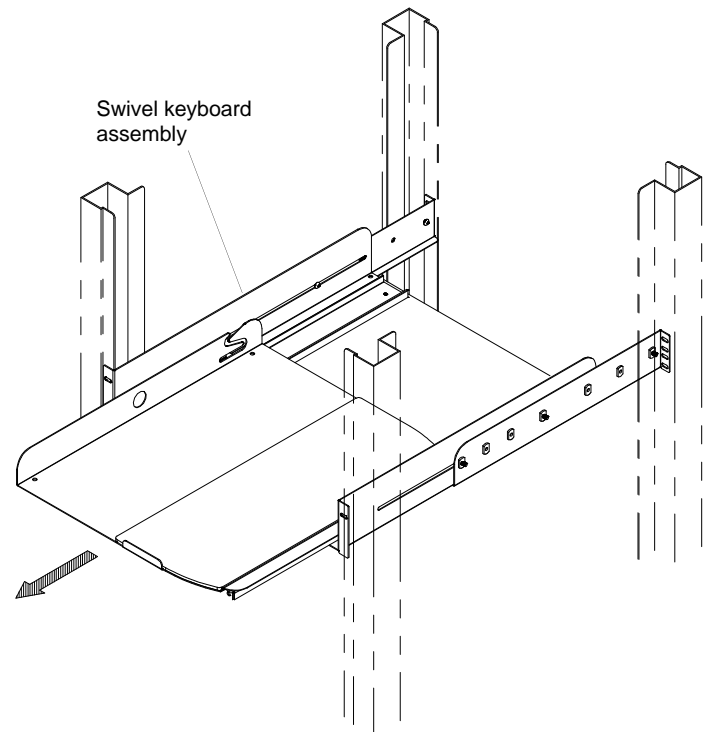

Figure 18a
3. The Swivel Keyboard can be accessed by first extending the swivel plate and then rotating it 90° clockwise. See figures 18a and 18b. Reverse this procedure to retract the Keyboard.